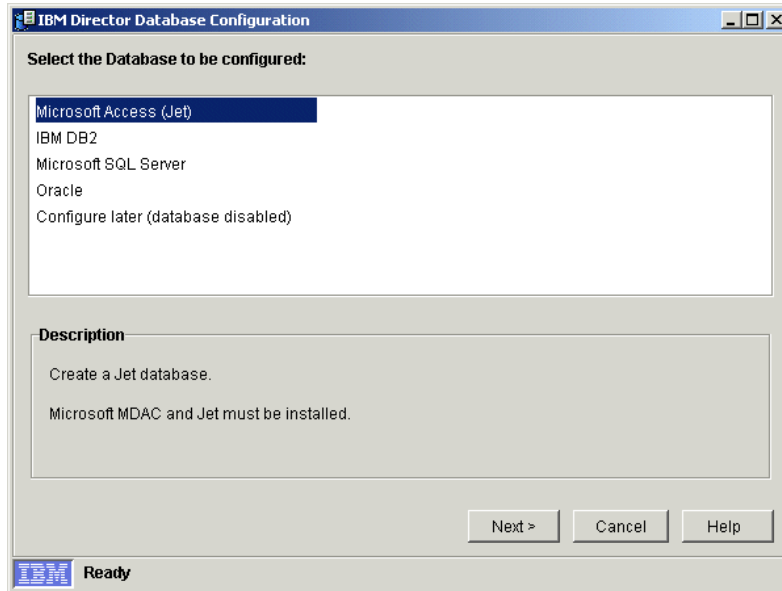

Figure 4-11 Database Configuration window
13. On the Network Drive Configuration window, amend settings as needed and click **OK**. You will see a window similar to Figure 4-11. For our example, we enabled the TCP/IP driver.